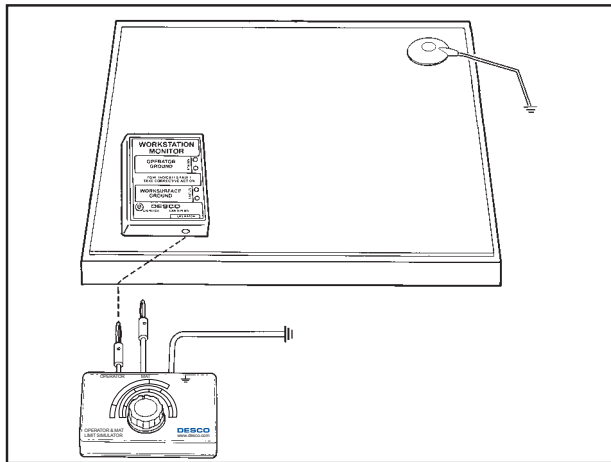

Figure 6. Connecting test lead from 98220 to 19212.
Step 2: Insert the calibration unit's banana plug marked "Operator" into the jack marked "Operator" on the 19212 tester. See figure 6.